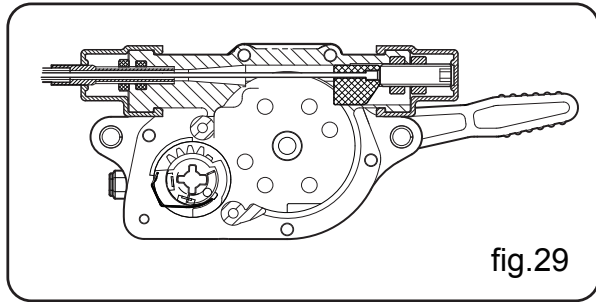

fig.29
- In case of removing the fuel cock (3), move to high speed position of the lever (2) ready. (fig.29)
- A. In case of removing the stop switch (4), move to high speed position of the lever (2) ready. (fig.29)